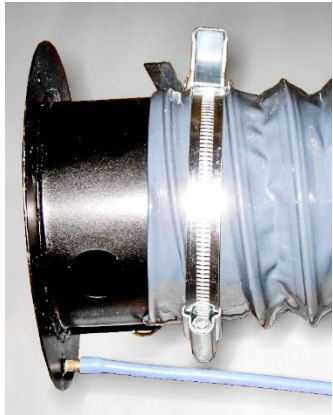

Figure 5. Connecting Pressure Tubing to Tap on Primary Duct Adapter. Bung not shown.
8. If the static pressure tap on the black Primary Duct Adapter is open to the duct, connect the 16 ft (5 m) long blue silicone tube to it as shown in Figure 5.
3. Connect the (+) port on the Model PVM610 to measure the duct static pressure (see Figure 5).